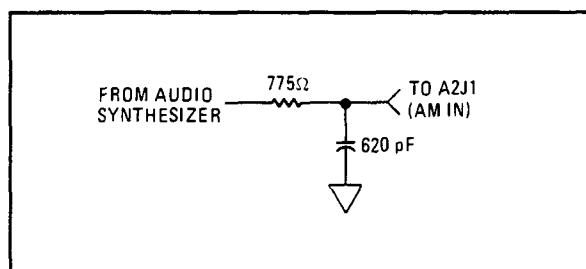

Figure 8F-14. Filter for $\sqrt{1}$ Step 2
2. Construct the input load for the AM input as shown in Figure 8F-14. The 775 Ω resistor can be constructed from a 2150 Ω resistor in parallel with a 1210 Ω resistor.